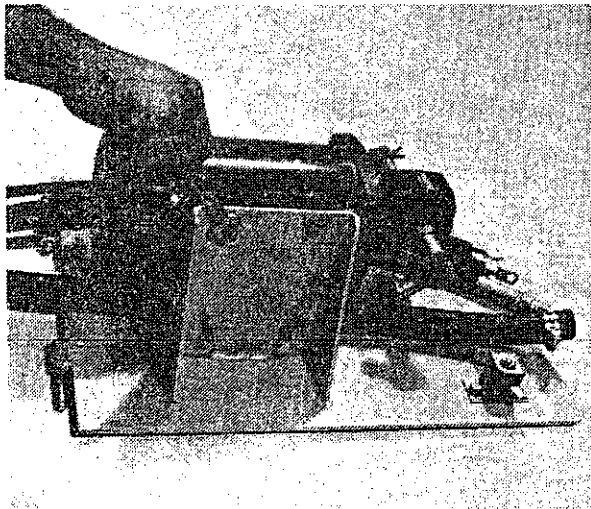

Figure 5-126
4. Unfasten the four pump motor isolation mounts from the support bracket on the door (Fig. 5-126). Lift the pump motor assembly from the support bracket.